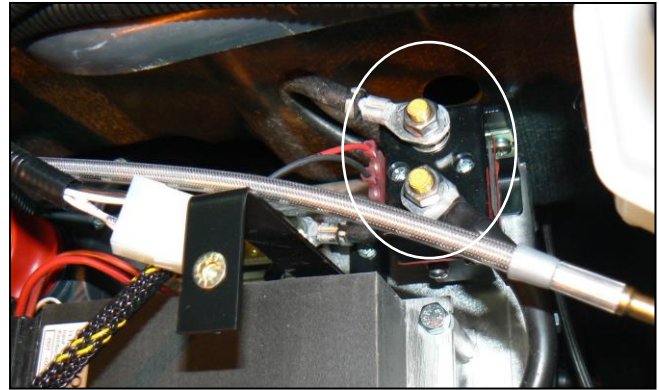

Figure 8-15
3. Label contactor cables with terminal identification.. Remove two nuts, washers and cables from stud terminals (Figure 8-15).